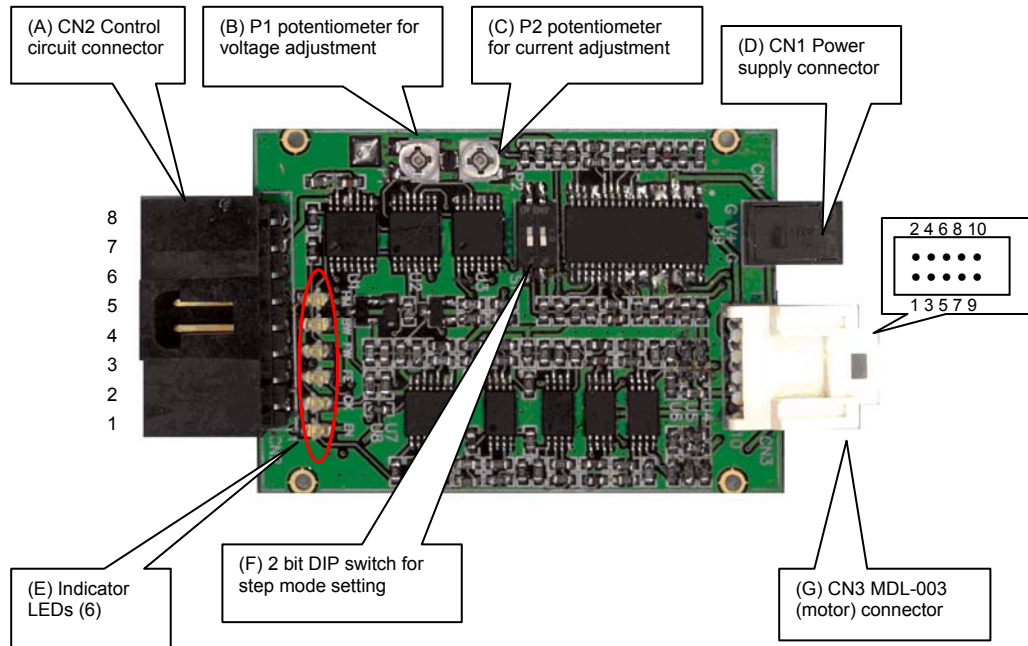

Figure 2 Stepper Motor driver board (top view)
Note: Board orientation in this figure is the same as in Figure 2.
*LEDs numbered from bottom to top in Figure 2.